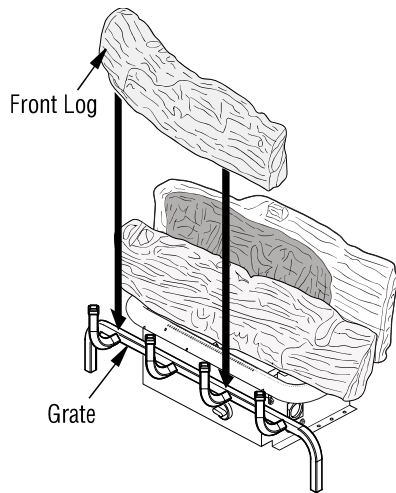

Figure 19 - Installing Front Log
3. Place front log onto grate as shown in **Figure 19, Page 17**. Front log has cut outs for the fingers of the grate to fit into.